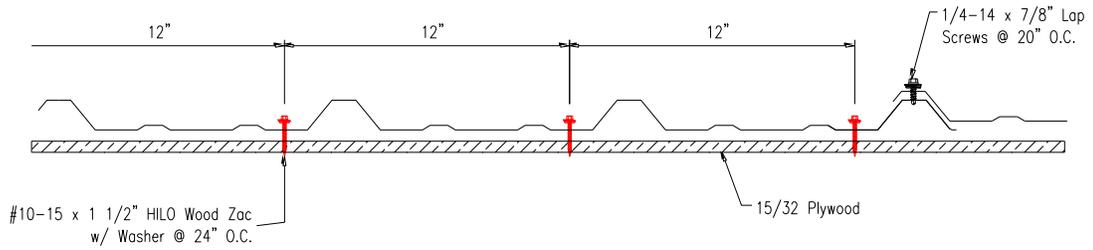
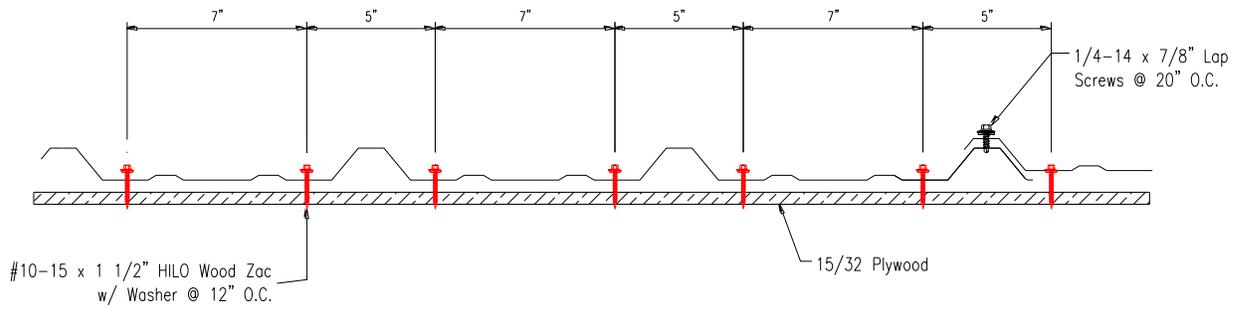

Figure 1. 12-12-12 Interior Fastener Pattern
Figure 3. 7-5-7-5-7 Interior Fastener Pattern
**Roofing Panels to Plywood Deck:** Minimum No. 10-15 x 11/2" HiLo WoodZac with sealing washer. The fasteners shall be long enough to ensure a minimum penetration of 1/4" below the roof deck. (Note: If the metal roofing panels are installed over an existing roof covering, then the fastener length shall be increased so that the fasteners are long enough to ensure a minimum penetration of 1/4" below the existing plywood roof decking.) The required quantity of fasteners as well as the maximum allowable spacing of the fasteners is specified in Table 1. Refer to Figure 1 and Figure 3 for illustrations of the fastener patterns.